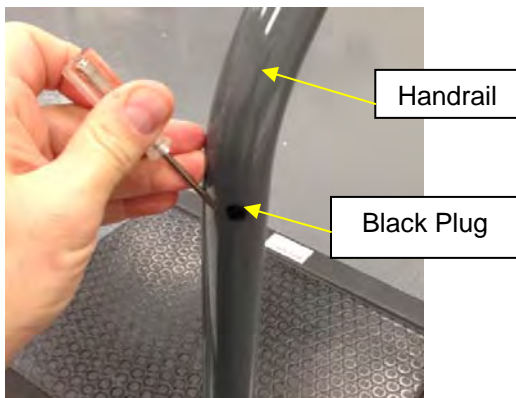

Figure 1
Mounting Instructions (see Figures 1 - 8)
3. Using a precision screwdriver, gently remove the four black plugs from the handrail mounting holes. The two sets of mounting holes are located about 7" (180mm) and 18" (460mm) above the handrail base. (See Figure 1) *Be careful not to scratch the surface of the handrail.*